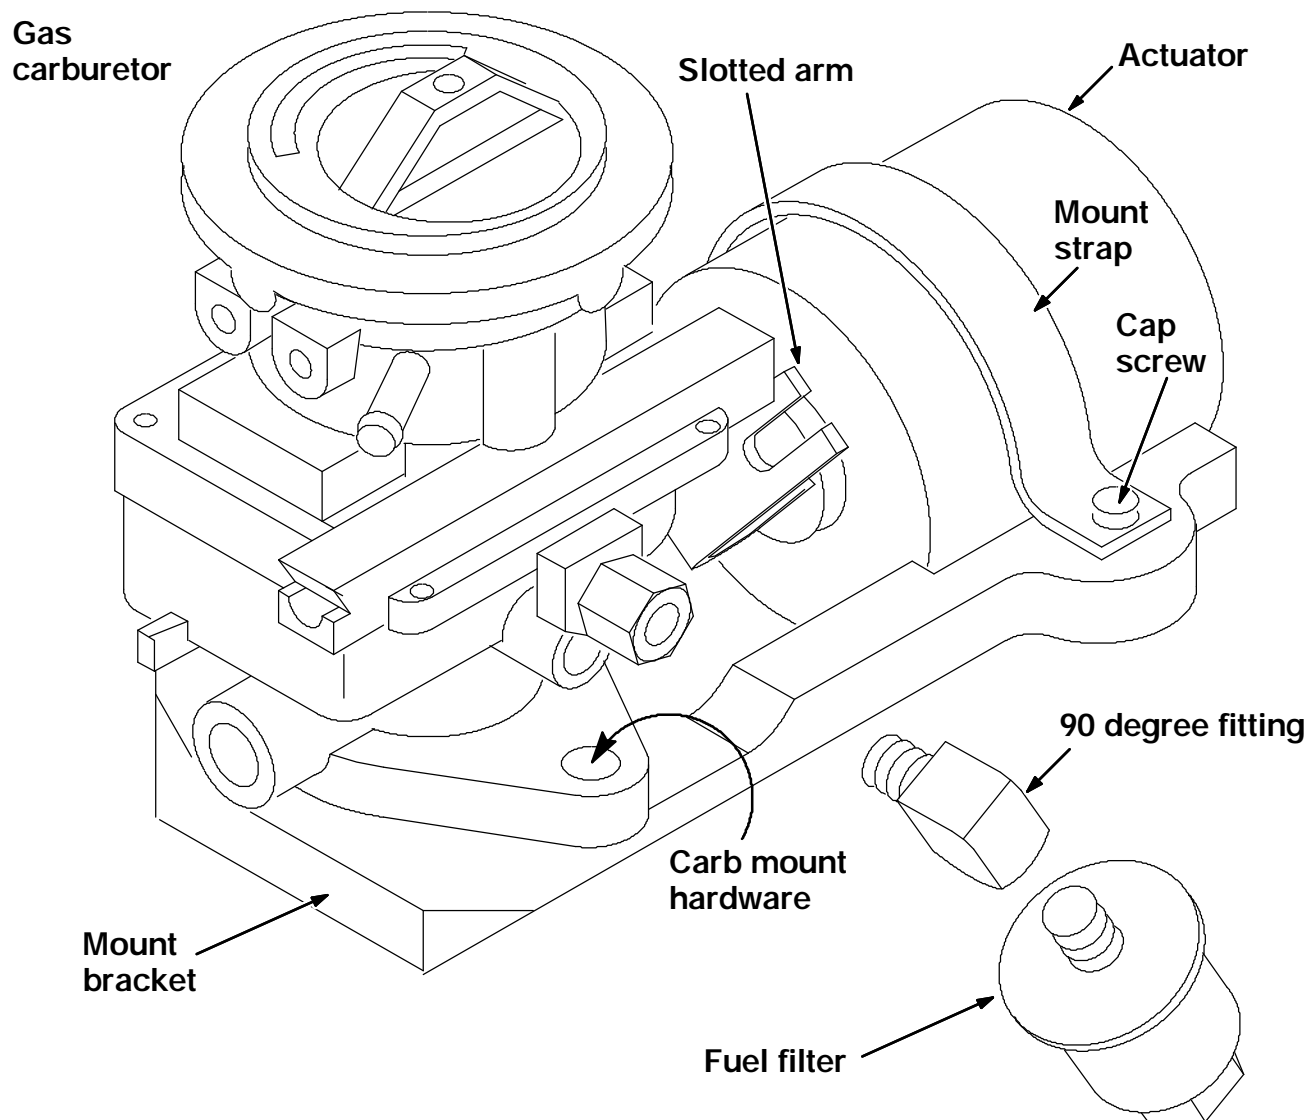

FIG. 2 - Gas Carburetor And Actuator Assembly (83639)
(Refer to FIG. 2 and 4)
5. Remove the gas line from the fuel filter. (Refer to FIG. 2 and 4)
6. Remove the two M6 hex nuts from the two hex screws holding the carburetor to the governor mount bracket. Remove the carburetor from the machine. Retain the gasket and hardware. (Refer to FIG. 2)
NOTE: When removing the carburetor, lift the arm and shoulder bolt up and out of the slot on the arm of the governor actuator. (Refer to FIG. 2)
7. Remove the arm from the old carburetor and install on the new carburetor in the same orientation. (Refer to FIG. 2)
NOTE: Install the arm flush with the end of the shaft and position the arm to swing approximately equal distance on either side of vertical. Tighten the arm clamp bolt with the nyloc nut. Firmly tighten. (Refer to FIG. 2)
9. Install the new carburetor (3) and gasket on the mount bracket (2). Install the hex screws up through the bottom. Install the hex nuts. Do not tighten the hardware at this time. (Refer to FIG. 2 and 4)
NOTE: When install the carburetor on the mount bracket, position the shoulder bolt in the slot on the actuator arm. (Refer to FIG. 2 and 4)
10. Align the shaft on the carburetor (1) with the slot in the mount bracket and the shaft on the actuator. Firmly tighten the hardware. (Refer to FIG. 2 and 4)
11. Install the elbow from the old carburetor and a new fuel filter on the new carburetor (3). (Refer to FIG. 2 and 4)
12. Reconnect the gas line, breather hose, air cleaner horn, and air cleaner hose to the new carburetor (Refer to FIG. 2 and 4)
(Refer to FIG. 2)
NOTE: When removing the actuator, slip the slotted arm out from the shoulder bolt on the arm of the carburetor. (Refer to FIG. 2)
6. Remove the arm from the old actuator and install on the new actuator (1) in the same orientation. (Refer to FIG. 2)
7. Install the new actuator (1) by sliding the slotted arm under the shoulder bolt on the carburetor arm and fitting the actuator in the matching radius of the mount bracket. (Refer to FIG. 2)
8. Loosely assemble the mount strap (5) using the two cap screws. Use a small amount of loctite on the threads of cap screws. Do not tighten at this time. (Refer to FIG. 2)
9. Rotate the actuator (1) to just close the carburetor butterfly against the idle stop screw--hold this position. (Refer to FIG. 2)
10. Mark the side (away from the arm) of the actuator (1) at the mount bracket top edge with a pencil. Further rotate the actuator in the direction of closing the butterfly until the pencil mark is above the bracket edge by approximately .20 inches. (Refer to FIG. 2)
11. Visually check that the slotted arm is centered on the length of the shoulder bolt and that there is no interference between the arms or shafts. Tighten the strap cap screws. (Refer to FIG. 2)
12. Check the arm movement--there must be no binding throughout the full stroke and there must be a spring pre-load holding the carburetor in its throttle closed position. (Refer to FIG. 2)